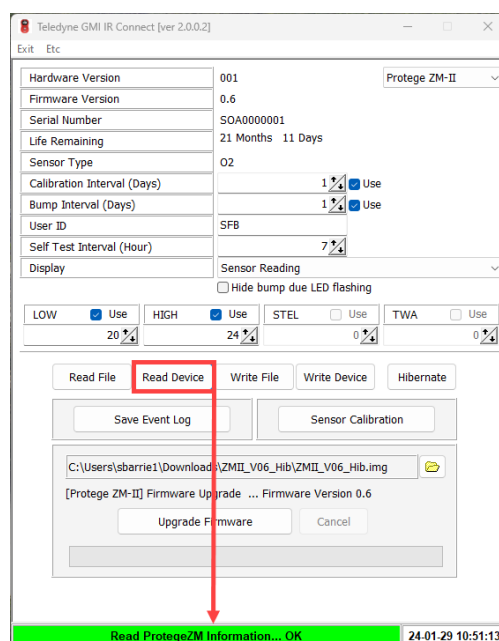

Figure 3-2: IR Connect - successful Read Device
4. Click READ DEVICE button. If the read was successful, a Green Bar at the bottom of the screen appears as presented in Figure 3-2.
The various parameters available are displayed in Figure 3-2 (appears after establishing communication between the IR Connect and the Monitor). These parameters, also detailed in the table below, allows users to program the individual Monitor to meet the specific requirements of the application.